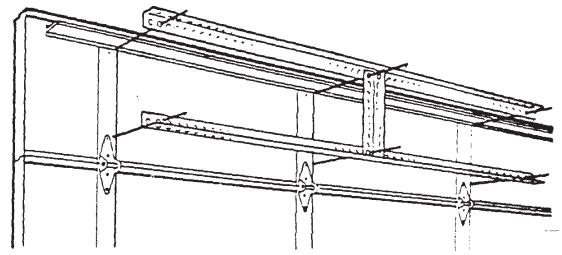
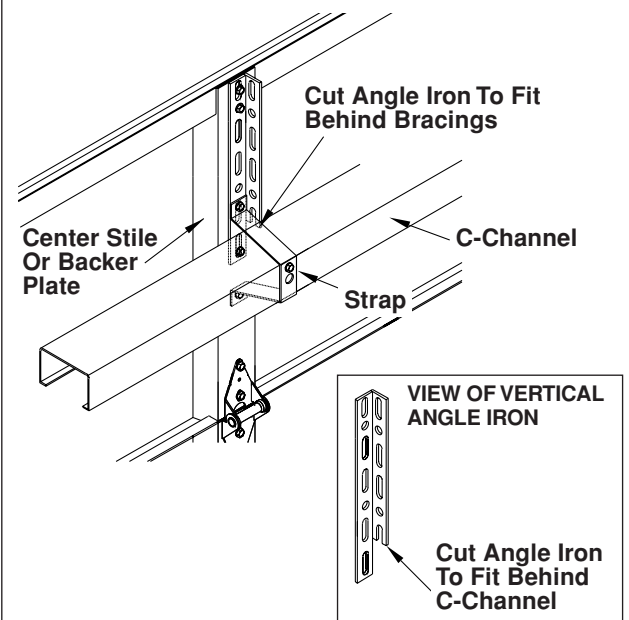

Fig. 1-OP
Fig. 3-OP
- Place remaining 8 ft. piece across the top of the section, bridging across the same three stiles as the bottom angle. Attach with fasteners similar to ones used with the hinges. One fastener per stile. If your door has a strut at the top of the section, remove the bottom strut clips and overlap the flange of the strut with the angle iron to secure the bottom of the strut. Attach angle using the fasteners removed with the strut clips. (FIG. 1-OP) Refer to Figure 3-OP for C-Channel.
- Cut the 24" piece of punched angle iron to span from top horizontal angle to bottom horizontal angle. Place vertical angle directly in the center of the door. Attach vertical angle to both the top and bottom horizontal angles with two $\frac{3}{8}$ " nuts and two $\frac{3}{8}$ " bolts. Refer to Figure 3-OP for C-Channel.
1. Place two rollers in the tubes as shown. On some doors it will be necessary to try various roller positions to achieve the proper hinge location on the door. (FIG. 1-LHR)
NOTE: Proper alignment of the pass door frame is critical for smooth operation of the pass door. After stacking the bottom section, measure the pass door frame opening at the top and bottom of the frame (Figure 3-PD). If this measurement is not exactly the same, the bottom section will need to be shimmed or clamped so that the frame is aligned.